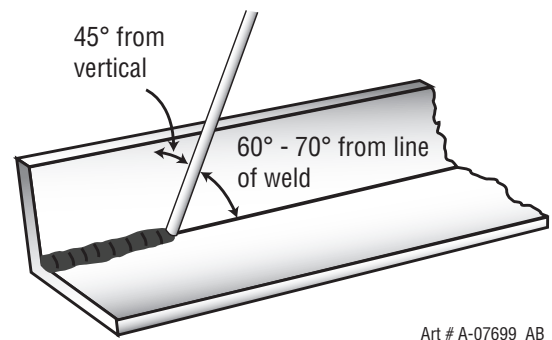
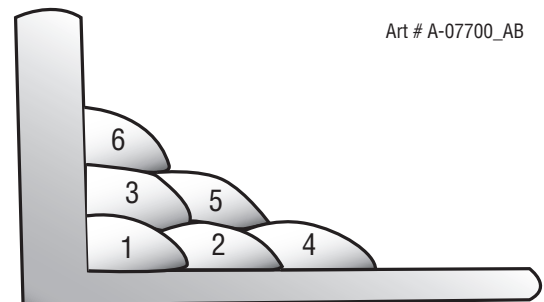

Figure 5-14: Electrode position for HV fillet weld
Figure 5-15: Multi-runs in HV fillet weld
A piece of angle iron is a suitable specimen with which to begin, or two lengths of strip steel may be tacked together at right angles. Using a 3.2mm Ferrocrafter 21 electrode at 100 amps, position angle iron with one leg horizontal and the other vertical. This is known as a horizontal-vertical (HV) fillet. Strike the arc and immediately bring the electrode to a position perpendicular to the line of the fillet and about 45° from the vertical. Some electrodes require to be sloped about 20° away from the perpendicular position to prevent slag from running ahead of the weld. Refer to Figure 5-14. Do not attempt to build up much larger than 6.4mm width with a 3.2mm electrode, otherwise the weld metal tends to sag towards the base, and undercut forms on the vertical leg. Multi-runs can be made as shown in Figure 5-15. Weaving in HV fillet welds is undesirable.